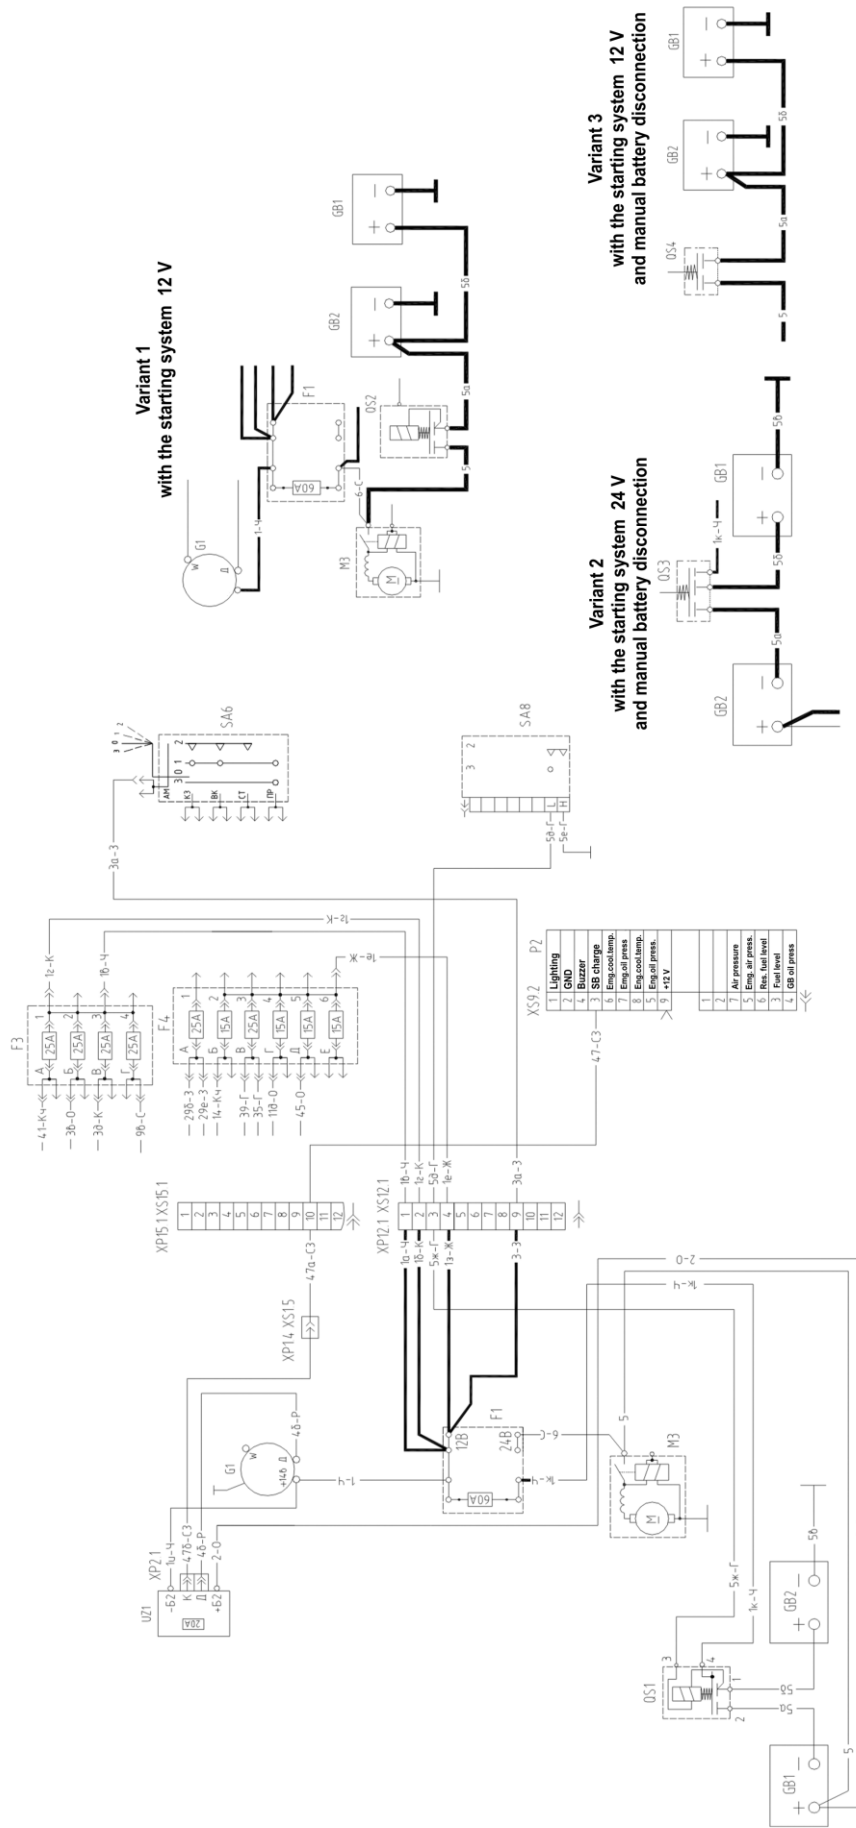
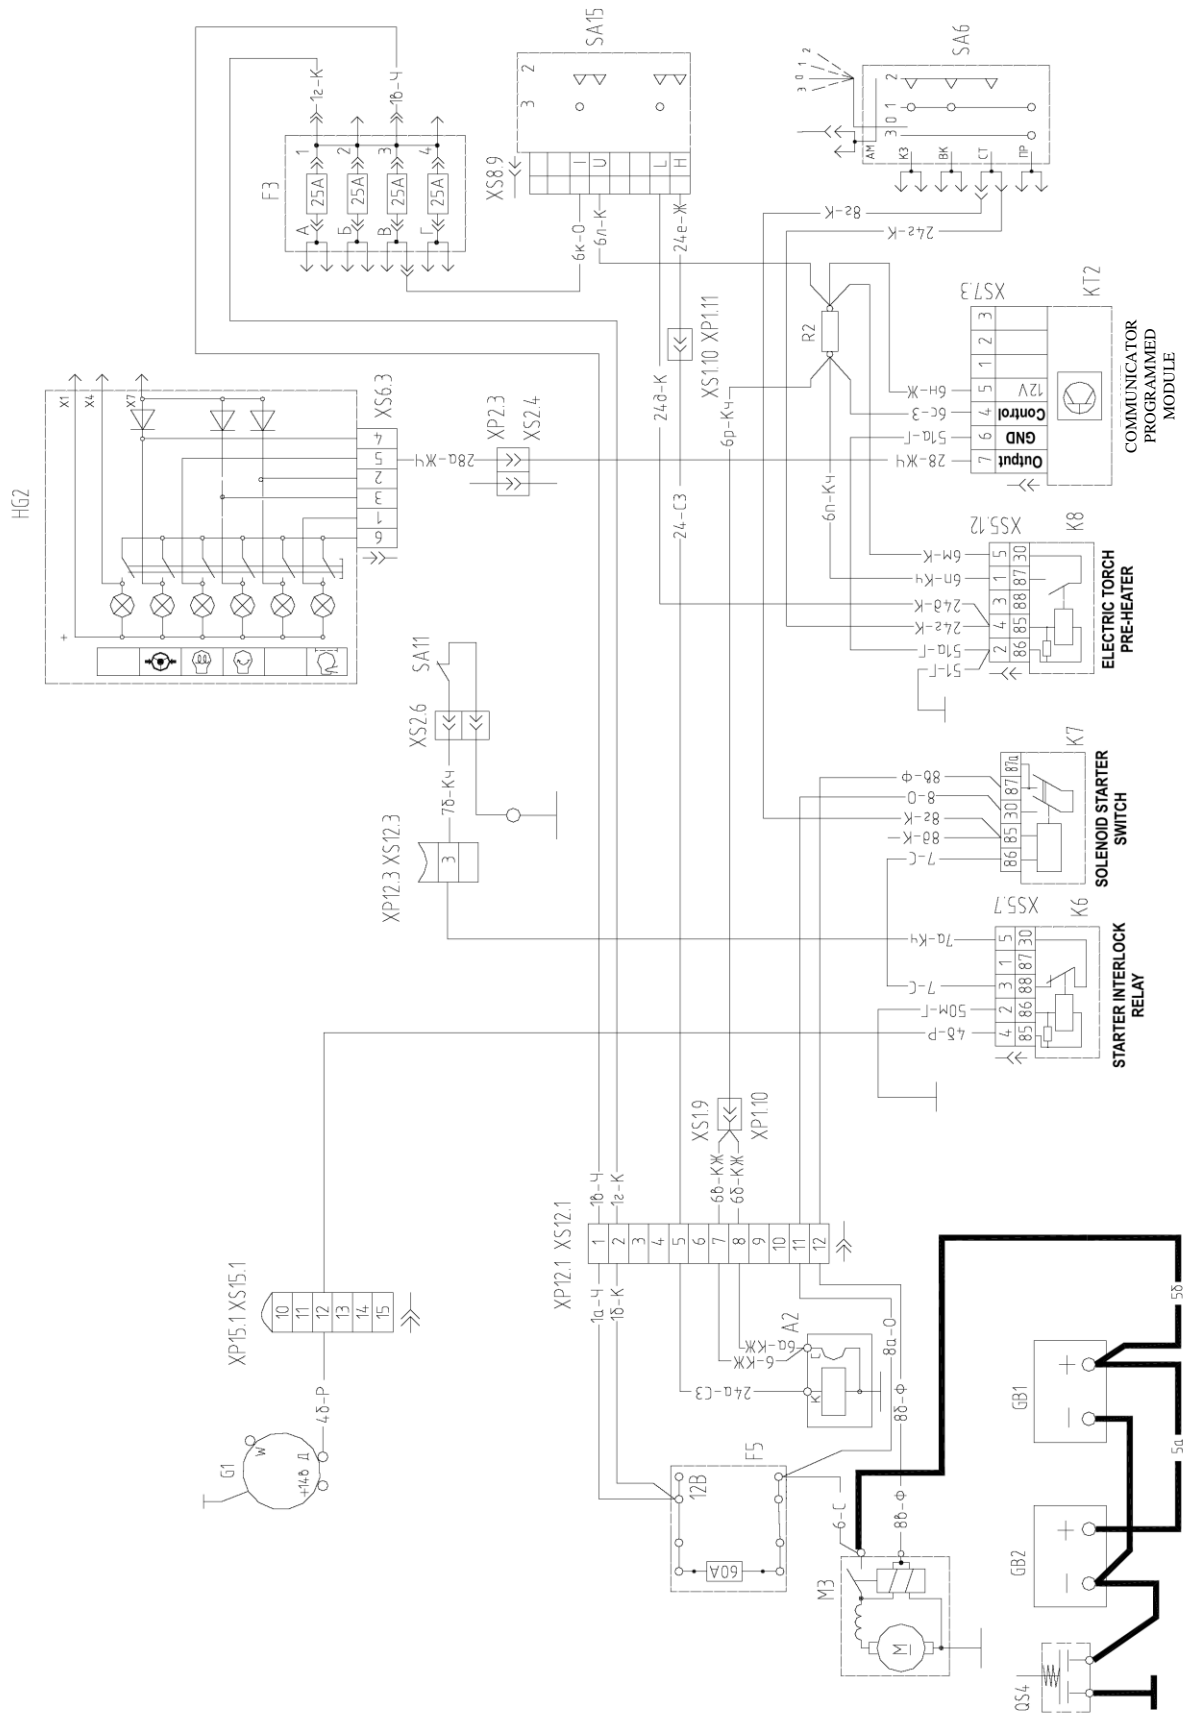
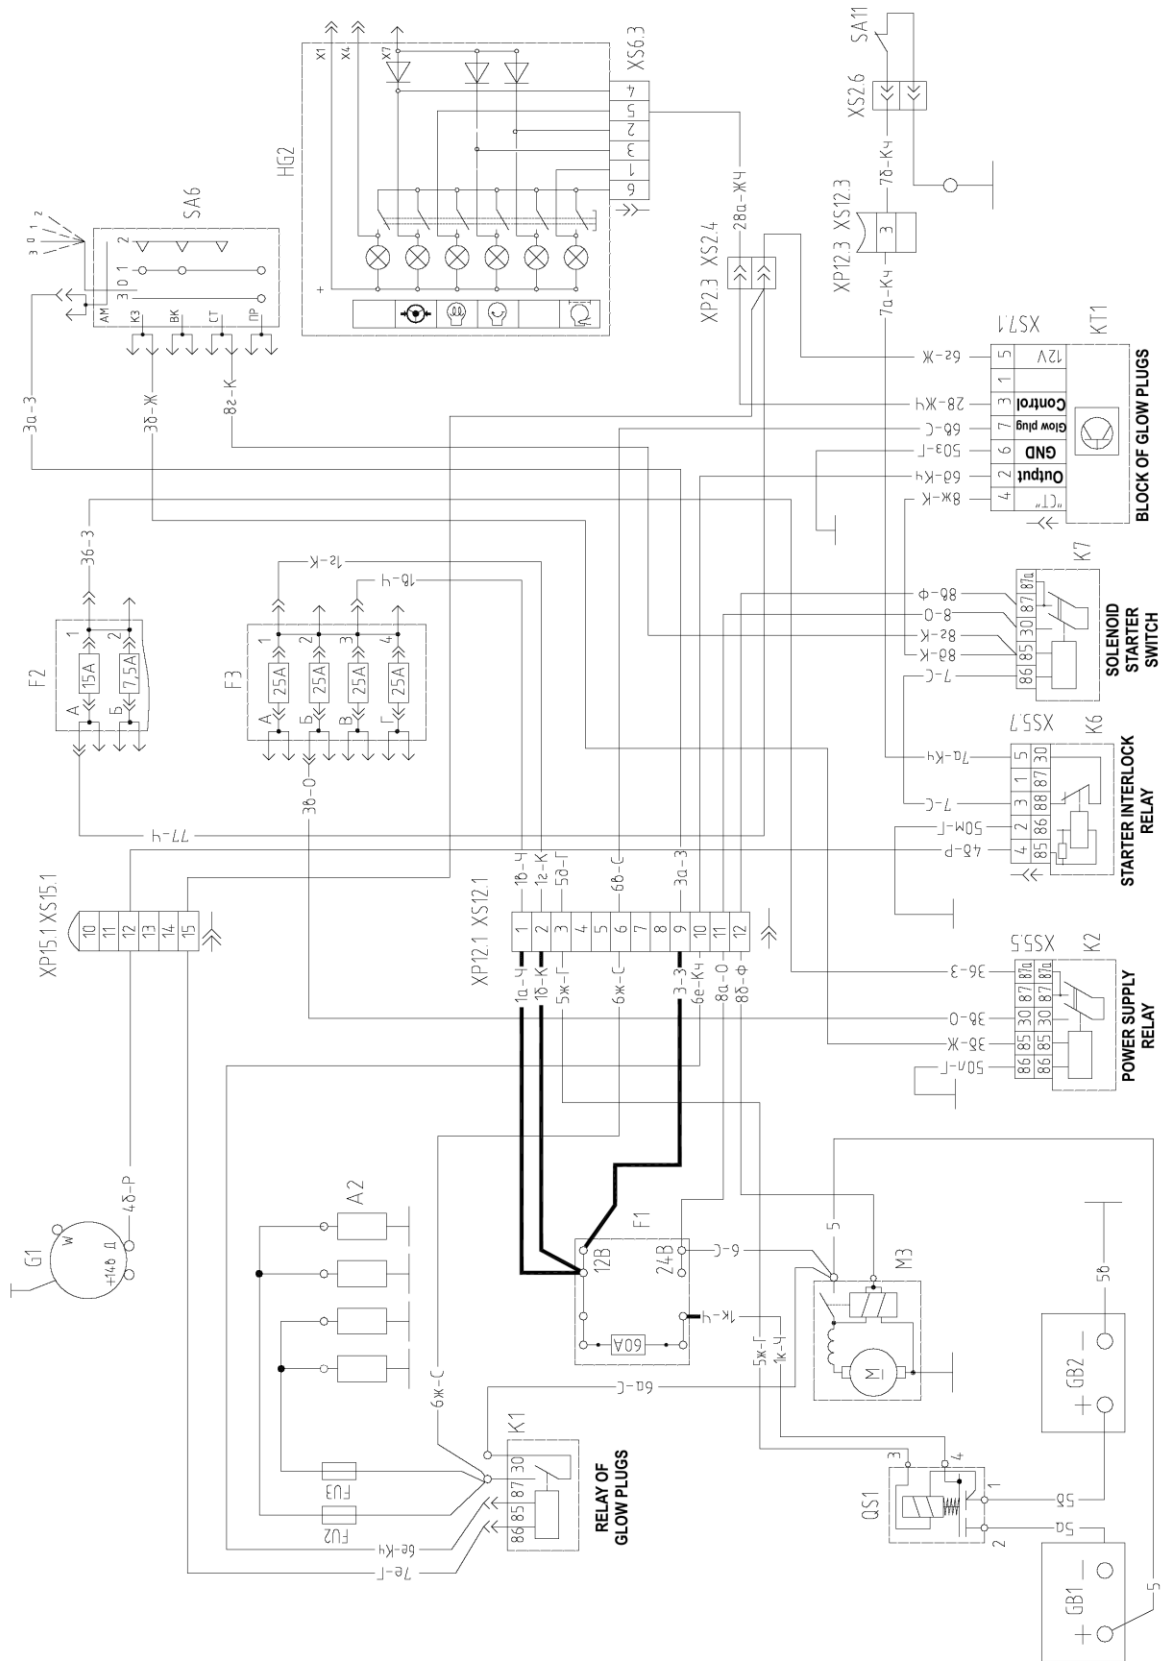

Fig. 2. Power supply system of the tractors
Fig.3. Starting system 12 V, starting aid system (electric torch pre-heater).
Fig. 4. Starting system 24 V, starting aid system (glow plugs)
- On-board power system with the rated voltage of 12 V and starting system with the voltage of 12 V and two storage batteries connected in parallel each with the voltage of 12 V (Fig. 2, variants 1, 3 and Fig. 3);
- On-board power system with the rated voltage of 12 V and starting system with the voltage of 24 V and two storage batteries each with the voltage of 12 V interconnected in parallel by means of the circuit breaker (Fig. 2, variant 2 and Fig. 4).
Fig. 2 shows the schematic of the power supply system with four versions of connection of the storage battery and ground switches (circuit breakers):
D. On the tractors with the power supply system with the voltage of 12/24 V (Fig. 2) and voltage converter UZ1, the left storage battery is not charged;
A. Starter M3 with the rated voltage of 12 V (Fig.3):
B. Starter M3 with the rated voltage of 24 V (Fig. 4):
NOTE. For the starting system with the voltage of 24 V (Fig. 4) use the test lamp rated at 24 V (A24-21).